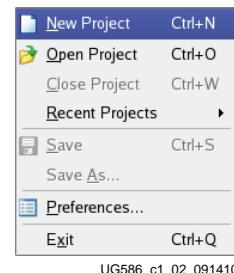

Figure 2-2: New CORE Generator Tool Project
2. Choose **File > New Project** to open the New Project dialog box. Create a new project named 7Series\_MIG\_Example\_Design (Figure 2-2).